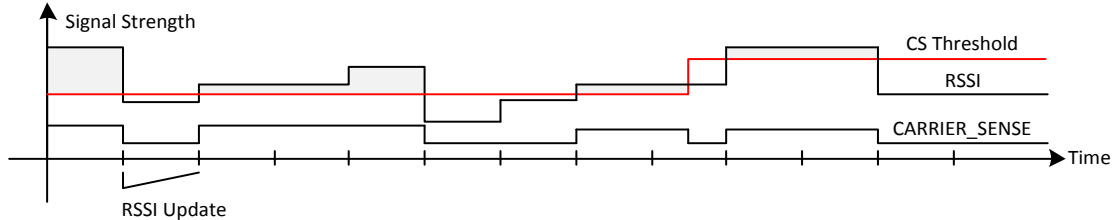

Figure 13: CS vs. RSSI_UPDATE
Carrier Sense (CS) indication will also be affected by the setting of `AGC_CFG0.RSSI_VALID_CNT`. After the RSSI is valid it will be continuously compared to the CS threshold set in the `AGC_CS_THR` register, but since the RSSI update rate is given by the `RSSI_VALID_CNT` register field, this will in practice limit the CS update rate as well. The exception is when the CS threshold is changed while in RX mode. The `CARRIER_SENSE` signal will then be updated immediately (if needed). For more info on CS, see Section 5.8.1. Figure 13 shows when CS is updated with respect to the RSSI.